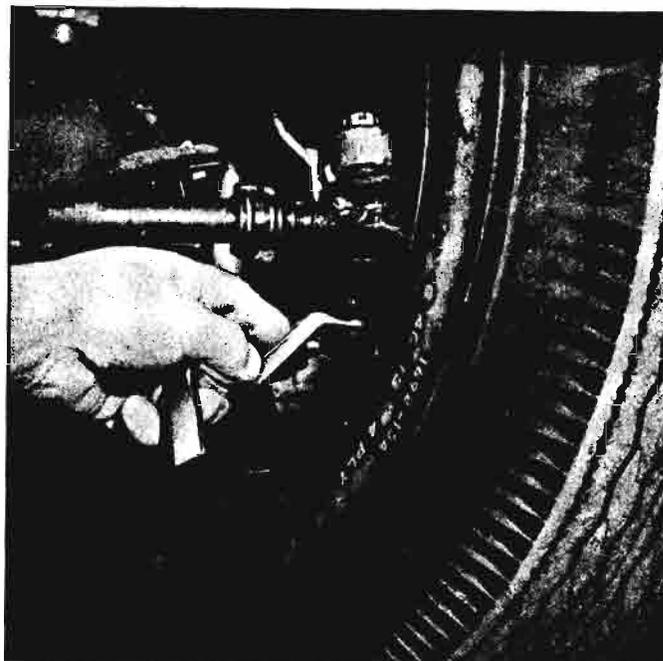

Fig. 5-14—Adjusting Brakes
3. Remove adjusting hole cover from brake flange plate. Expand brake shoes by turning adjusting screw with Tool J-8363 until a heavy uniform drag is felt on the brake drum (fig. 5-14).